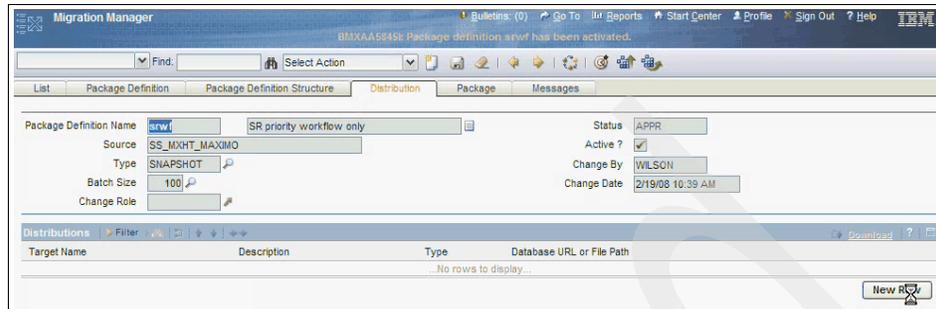

Figure 8-32 Select distribution target
16. We can now select the distribution target by clicking the **New Row** button in the Distributions section (see Figure 8-32).